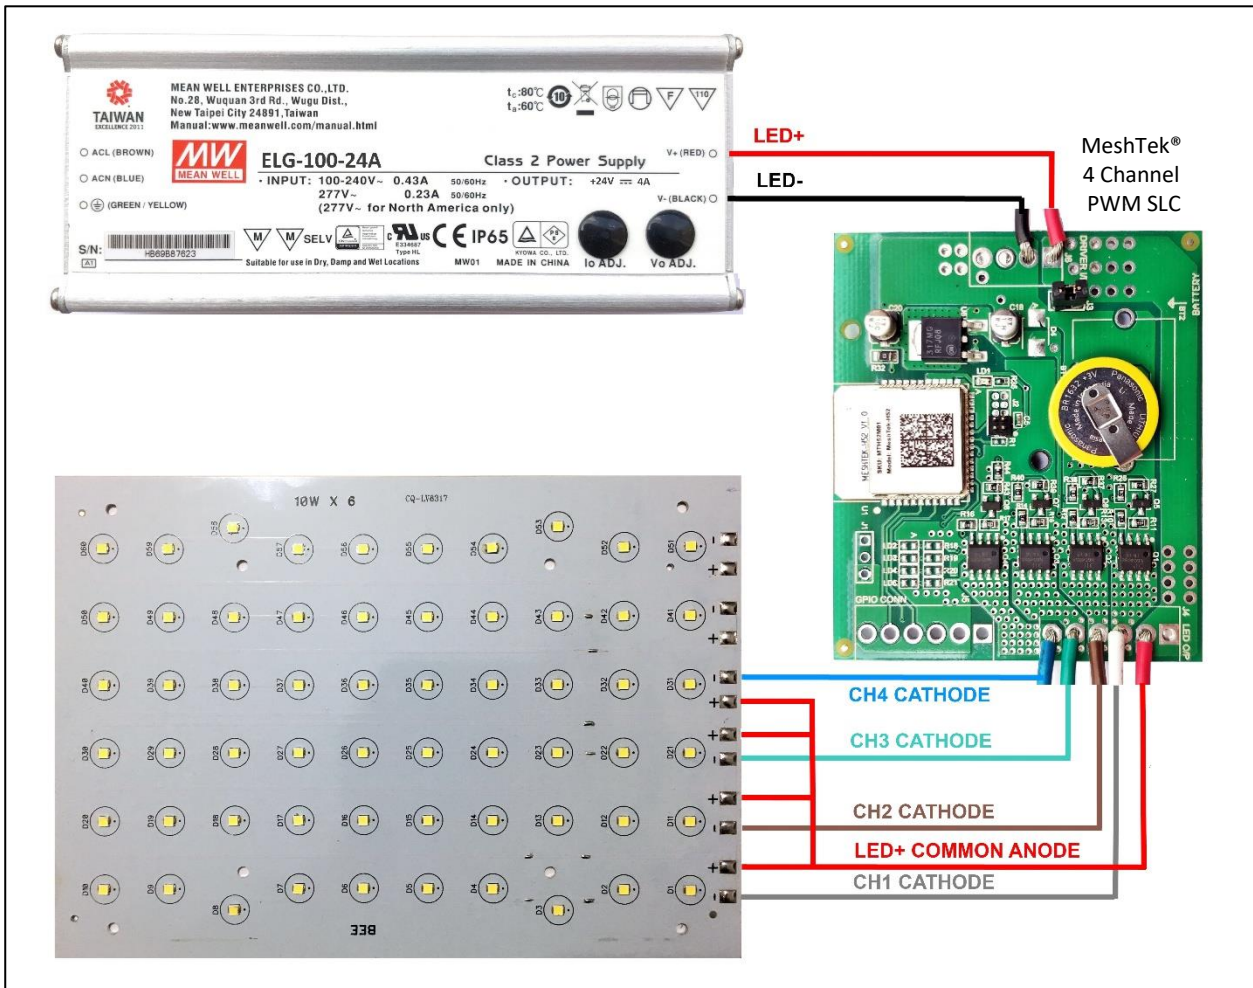

Figure 4-1 Application Setup
**If load consists of multiple LED chains (colored or non-colored) and individual LED chain control is required, then the LED chains should be connected in a common anode topology for proper operation. Refer to application setup shown in Figure 4-1*
1. If the load consists of multiple LED chains (colored or non-colored) and individual LED chain control is required, then the LED chains should be connected in a common anode topology for proper operation. Refer to application setup shown in Figure 4-1